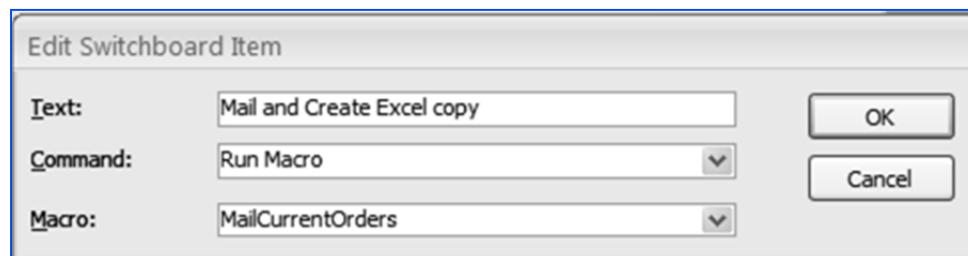

Fig. 4.3.25: Add a button to run macro MailCurrentOrders
9. From the *Form* list, select *MailCurrentOrders* and click *OK*. The *Edit Switchboard* window appears, as shown in Fig. 4.3.25.